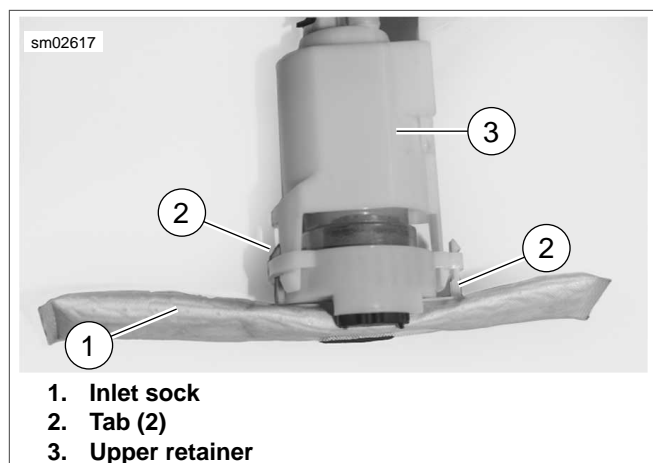

Figure 4-44. Fuel Sock
1. See Figure 4-44. Depress tabs (2) securing inlet sock (1) to upper retainer (3).
3. See Figure 4-44. Install inlet sock (1) on upper retainer (3). Be sure tabs (2) engage slots in body.